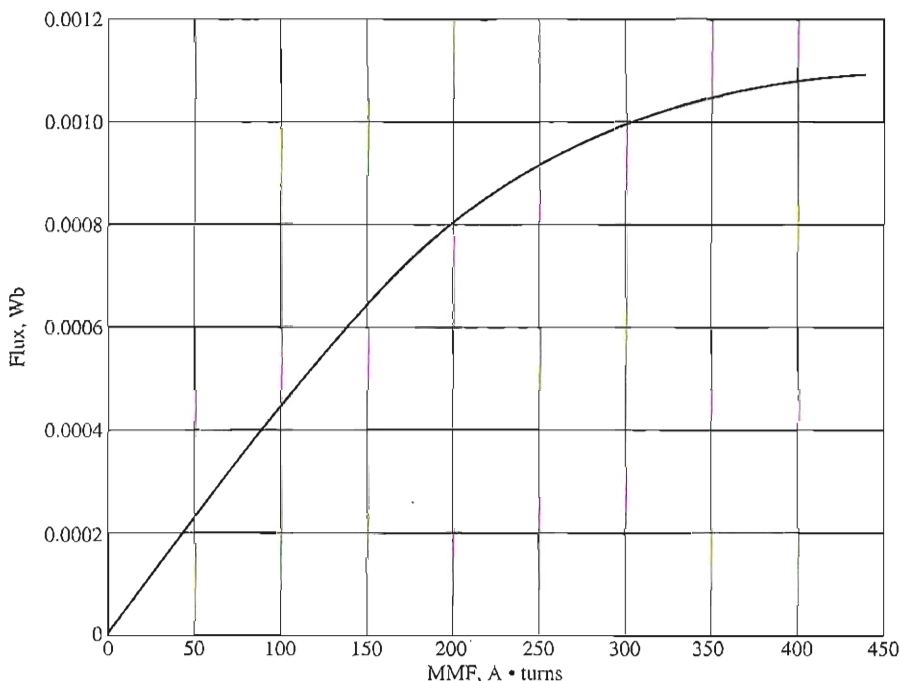

FIGURE P2-2
- 2-5. When travelers from the USA and Canada visit Europe, they encounter a different power distribution system. Wall voltages in North America are 120 V rms at 60 Hz, while typical wall voltages in Europe are 230 V at 50 Hz. Many travelers carry small step-up/step-down transformers so that they can use their appliances in the countries that they are visiting. A typical transformer might be rated at 1 kVA and 115/230 V. It has 500 turns of wire on the 115-V side and 1000 turns of wire on the 230-V side. The magnetization curve for this transformer is shown in Figure P2-2, and can be found in file p22.mag at this book's website.